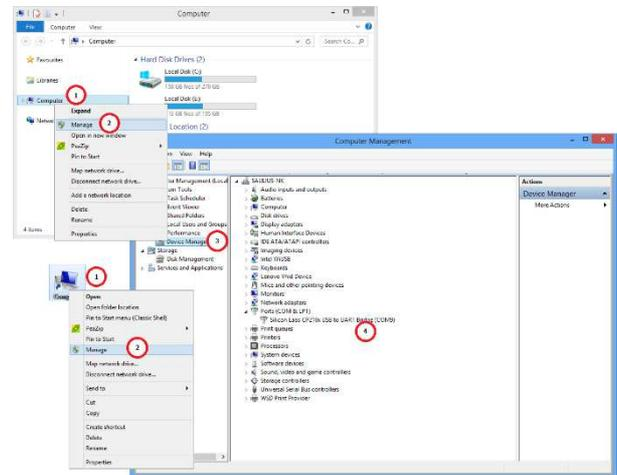

Figure 16. Finding MoTex serial port name using Windows “Computer Manager”.
In case if only drivers were installed (no “MoTex” software itself – see Table 1 on page 12) serial port name could be checked in Windows “Computer manager”. Right click on “My Computer” (1), select “Manage” (2). “Computer manager” window will appear. Click on “Device Manager” under “Computer Management” tree (3) and look for “Ports (COM and LPT)” (4). Each connected and powered on MoTex appears as “Silicon Labs CP210x USB to UART Bridge (Serial port name)”. Serial port name is shown in parentheses fig. 16.